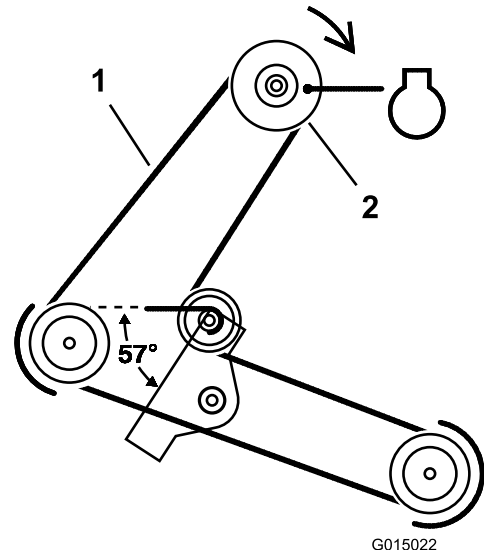

Figure 32
5. Remove the mower belt from the electric clutch pulley (Figure 32).
5. Install the mower belt onto the electric clutch pulley (Figure 32).